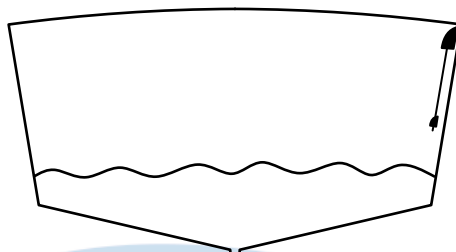

Figure 1
2. Identify the installation points of the sensor and level contact, pulling the cable supplied (as in Figure 1) and clean the two areas identified;